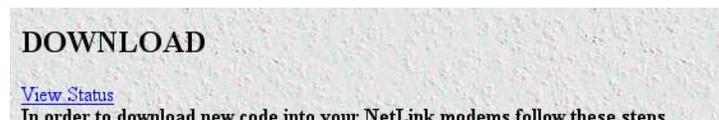

Figure 39. View Status link location
- Select the View Status hyperlink (see figure 39)